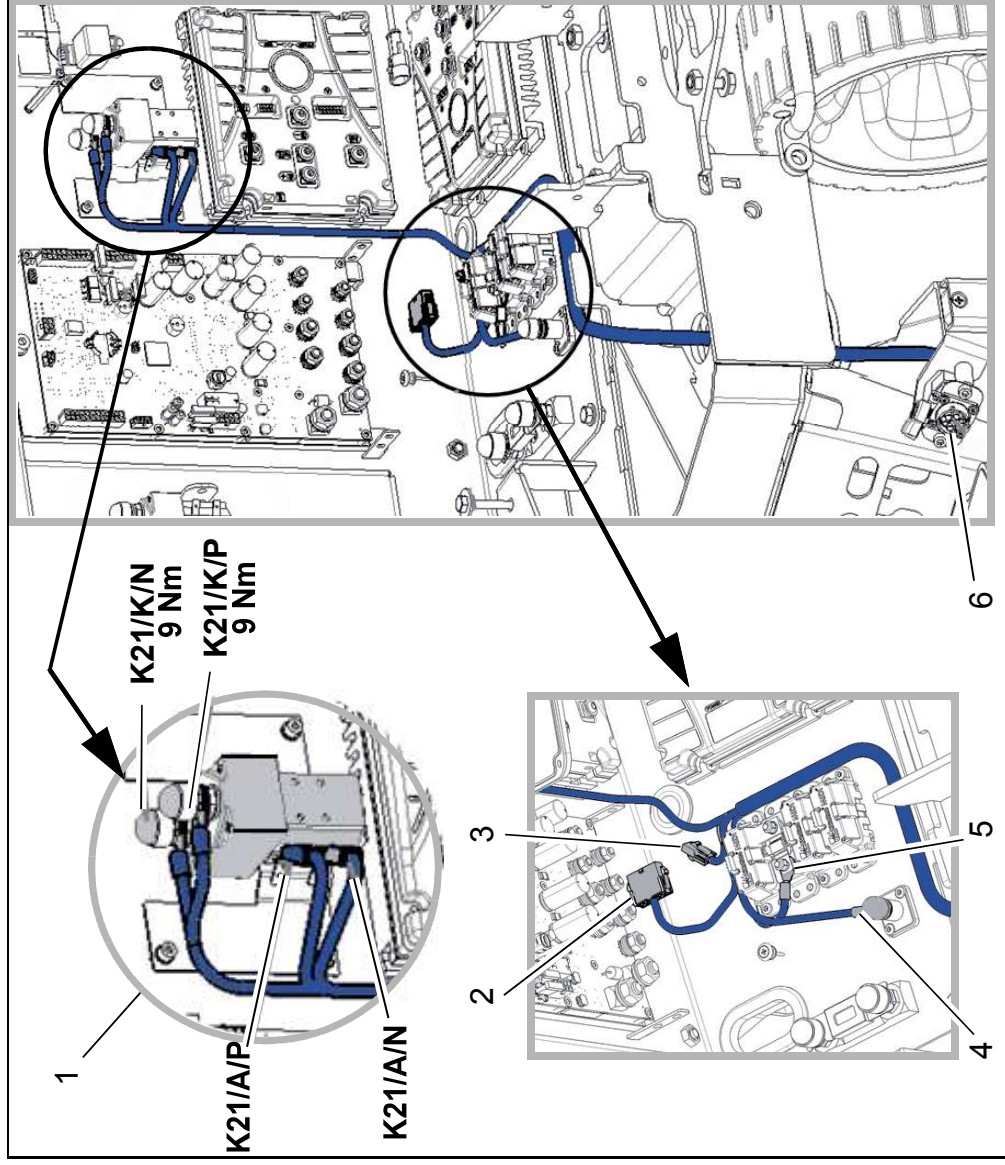

Fig. 5
1. Connect cable loom to relays K21/K/N (tightening torque 9 Nm), K21/K/P (tightening torque 9 Nm), K21/A/P and K21/A/N (Fig. 5/1).
2. Attach 12-pin connector X28 to the connector of the same name of cable loom W3 (Fig. 5/2).
3. Attach 2-pin connector X23 to the connector of the same name of cable loom W3 (Fig. 5/3).
4. Make connection to single terminal X43 (Fig. 5/4).
5. Make connection to fuse F05/2 (Fig. 5/5).
6. Lead cable loom to right-hand support foot of the machine as shown in the illustration (Fig. 5/6).